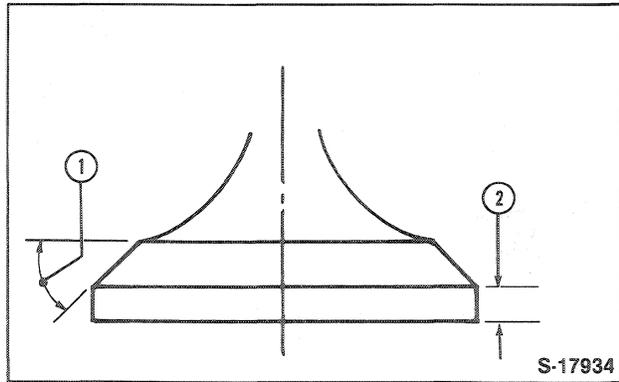

Figure 36
3. If inspection indicates that the valve may be reused, the valve face and seat should be ground as shown, Figures 36 and 37.
After grinding, recheck the valve margin, (2), Figure 36, to be sure that the correct valve head thickness is maintained.